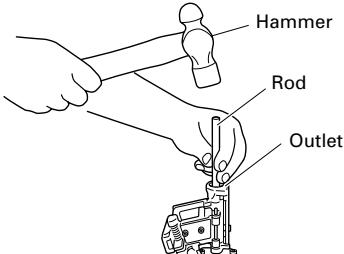

Fig 11
- (1) Remove the nail roll from the magazine, open the nail guide, insert a rod into the outlet and tap the rod with a hammer. (Fig. 11).